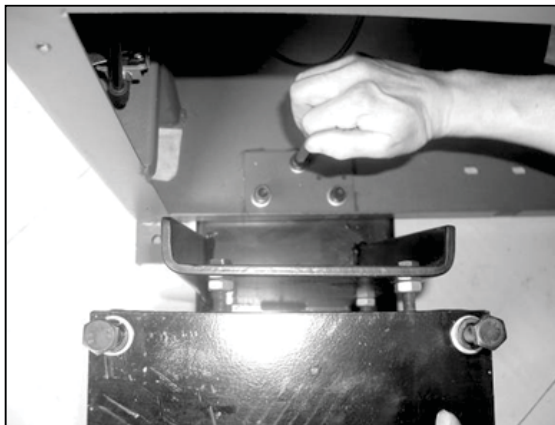

Fig. 31
6.1.3 Position the platform of the base plate, for the base assembly into the body through base plate on the left-back side of the body. Align the threaded holes to the reinforced holes on the body's base and connect using hex bolts and washers (Fig 31).